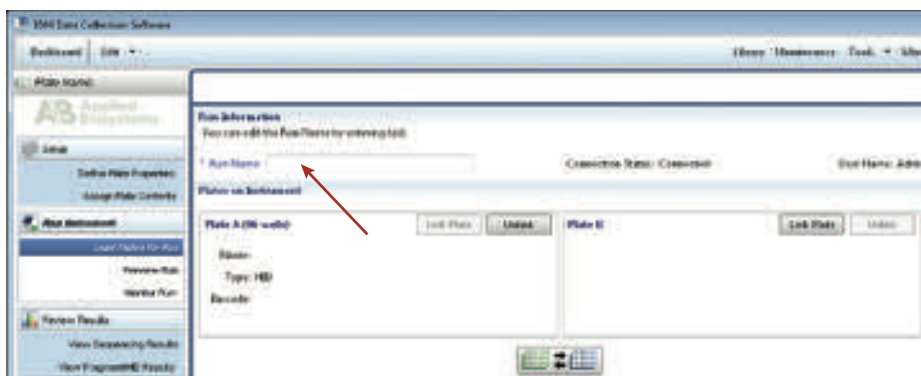

Figure 14. Assigning a run name.
13. In the Run Information window (Figure 14), assign a Run Name. Select “Start Run” (not shown).